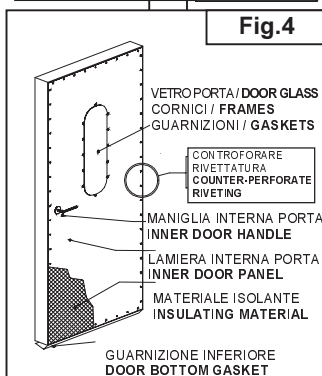

Fig.4
- Staccare la lamiera interna porta ed accedere al materiale isolante **Fig.4**.
-Detach the inside panel of the door and remove the insulating material **Fig. 4**.